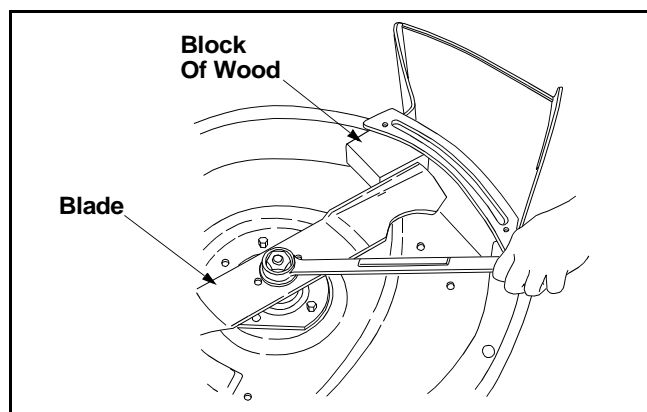

Figure 28
- Secure the mower blade by putting a piece of wood between the blade and the housing. See Figure 28.